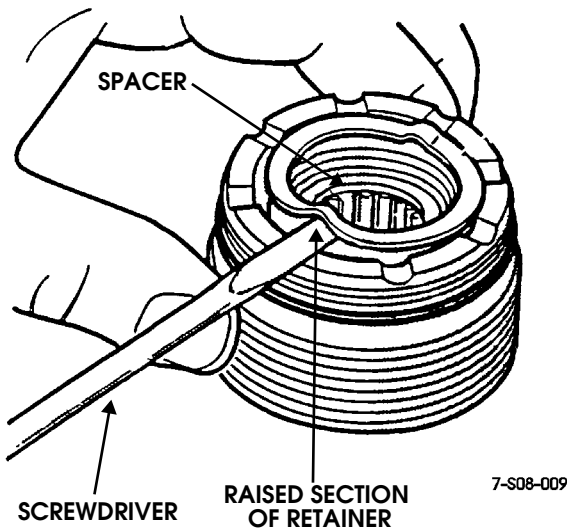

Figure 8-35: Adjuster Plug Thrust Bearing Retainer Removal
3. Remove thrust bearing retainer by prying it up and out at raised point on retainer (Figure 8-35).